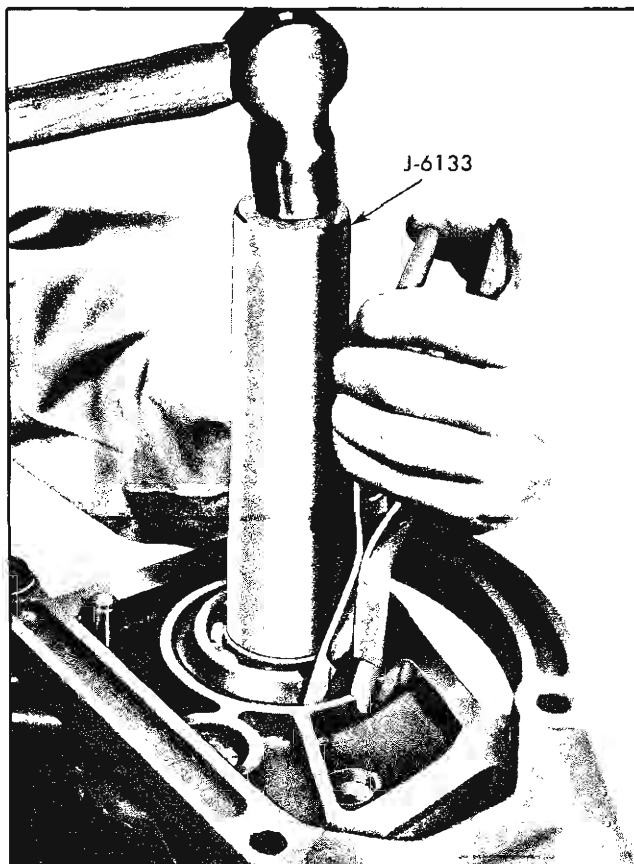

Fig. 7-41 Installing Mainshaft Bearing
22. Install mainshaft bearing with ring groove toward case and, with retainer ring expanded, drive bearing onto mainshaft with tool J-6133 (Fig. 7-41).